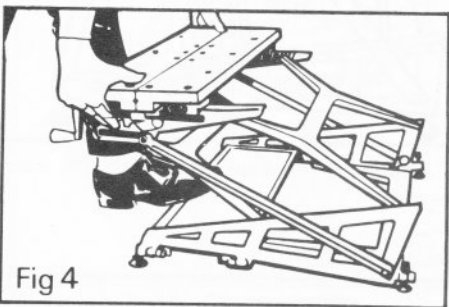
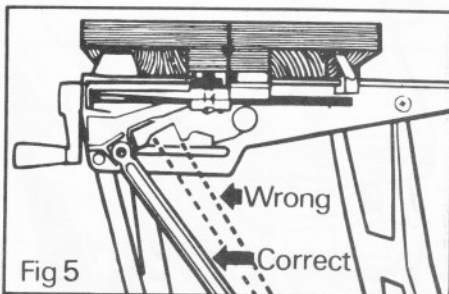

Fig 4
Fig 5
- 4 Allow all the feet of the Workmate to rest on the ground, Fig. 4. Release the retainer latches and push the vise bars up and away from you through the intermediate safety positions (see Fig. 5) until you can push no further.